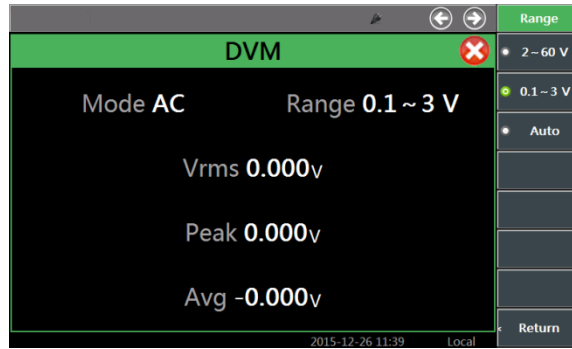

Fig. 4-33 Digital Voltmeter Range Setting Window
- Click the [Range Selection] soft key of the right menu of the touch screen for port setting. The range setting window of the digital voltmeter is shown in Fig. 4-33. Select the appropriate range.